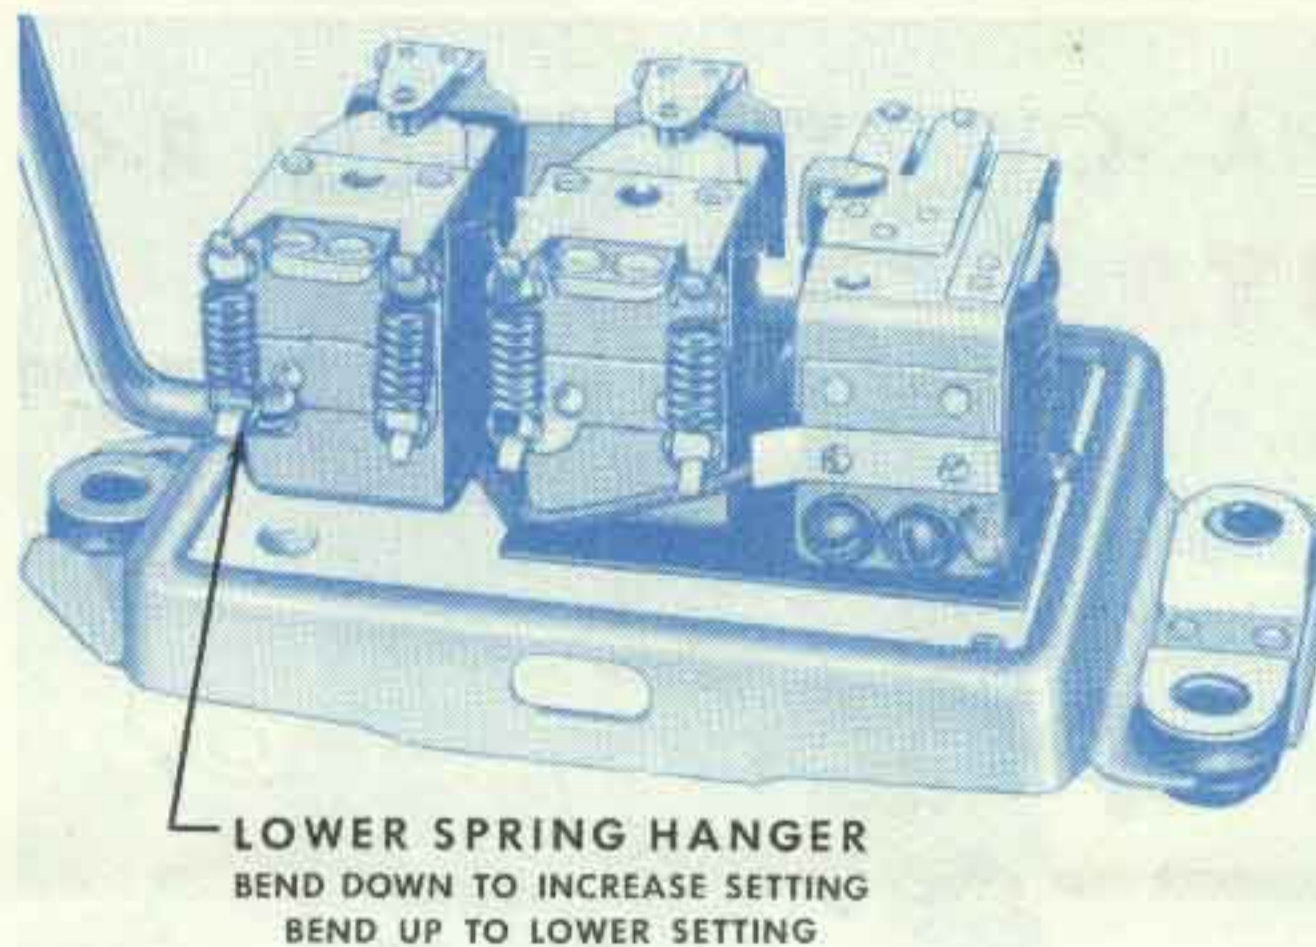
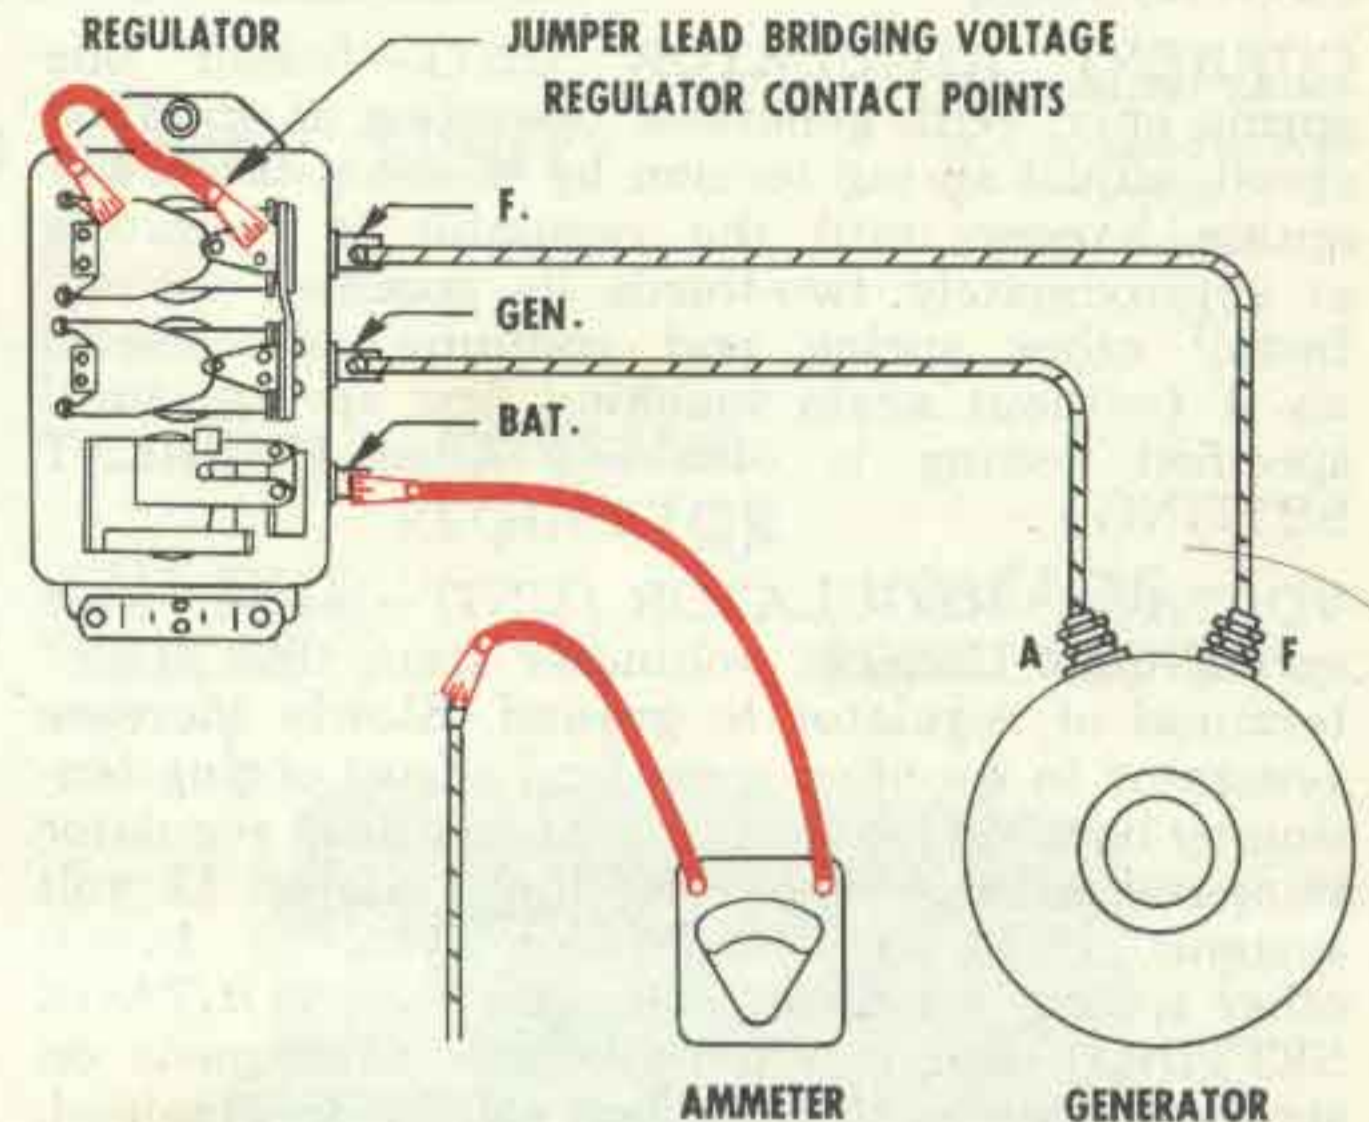

Figure 13—Adjusting voltage regulator setting.
Figure 14—Ammeter and jumper lead connections for checking current regulator setting by the jumper lead method. Ammeter leads and jumper lead shown in red.
To adjust, bend the lower spring hanger of one spring (Fig. 13). Bend down to increase the voltage setting, or up to lower the setting. Confine adjustment to one spring only. Some units have one light and one heavy spring and on these, adjustment should be normally confined to the light spring only. If the unit is badly out of adjustment, refer to section headed **REGULATOR SPRING REPLACEMENT**.
CURRENT SETTING—To check the current regulator setting, the voltage regulator must be prevented from operating. Three methods of preventing voltage regulator operation are available. Regardless of the method used, an ammeter must be connected into the charging circuit at the regulator "BAT" terminal (Fig. 14). The three methods are as follows:
1. **JUMPER LEAD METHOD**—Remove the regulator cover and connect a jumper lead across the voltage regulator contact points (Fig. 14). Turn on lights and accessories to prevent high voltage during the test. With generator operating at specified speed, and with regulator at operating temperature, note the current setting. Adjust by bending the lower spring hanger of one spring down to increase the current setting or up to lower the setting (see Fig. 13). Confine adjustment to one spring only. If the unit is badly out of adjustment, readjust as explained under **REGULATOR SPRING REPLACEMENT**.